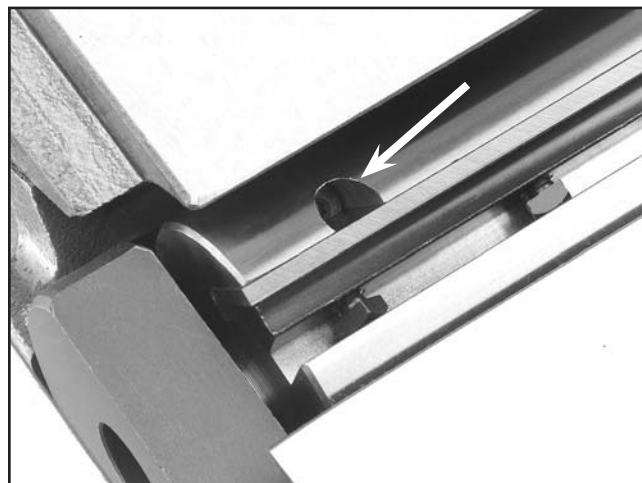

Figure 44. Jack screw access hole.
7. **Jack Screws**—Using a 3mm hex wrench, find the jack screws through the access holes in the cutterhead (**Figure 44**) and rotate the jack screws to raise or lower the knife. When the knife is set correctly, it will barely touch the middle pad of the knife setting jig. Snug the gib bolts tight enough to just hold the knife in place. Repeat **Steps 5-7** with the rest of the knives.